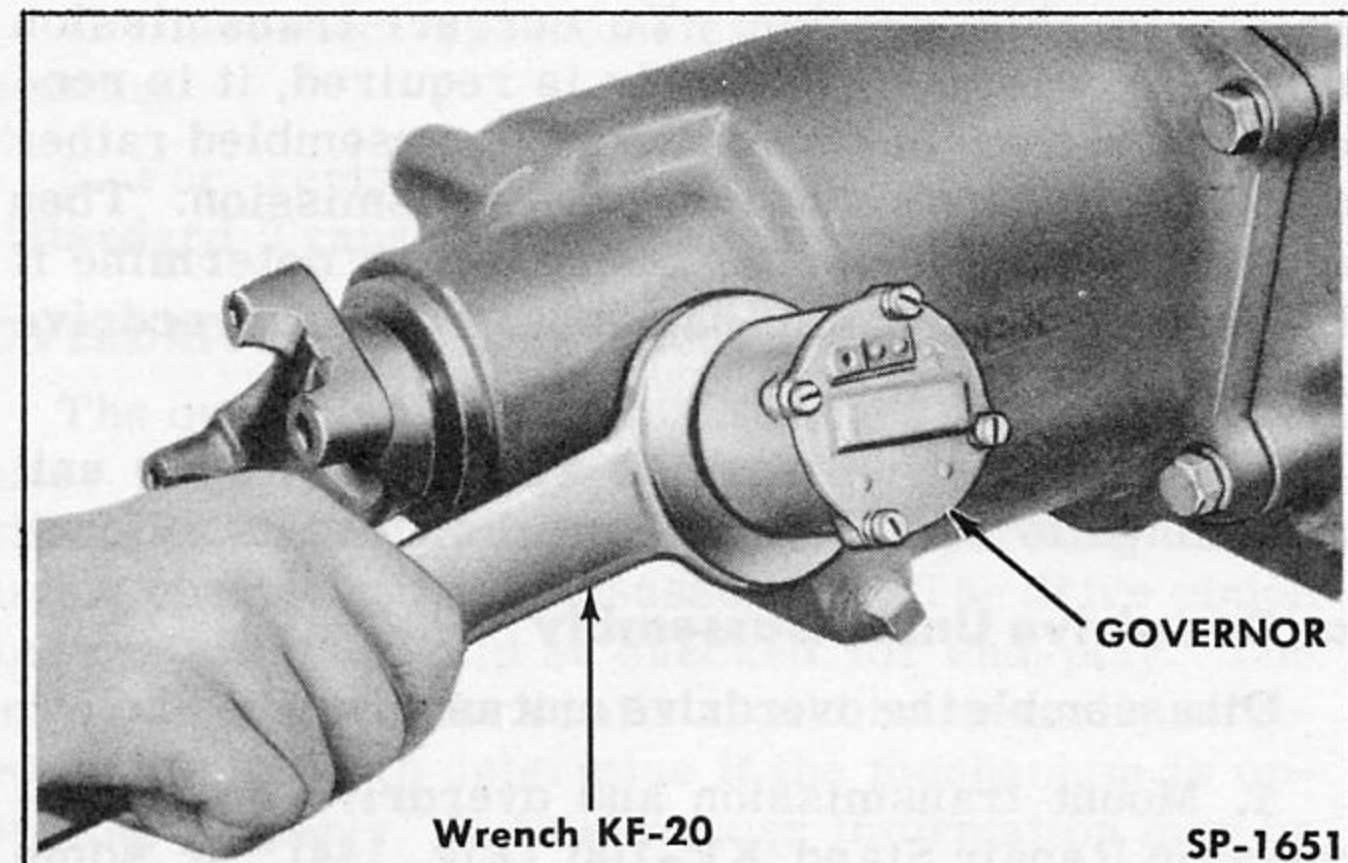

Fig. 148—Removing Overdrive Governor
5. Remove governor, using Overdrive Governor Wrench KF-20 (Fig. 148).